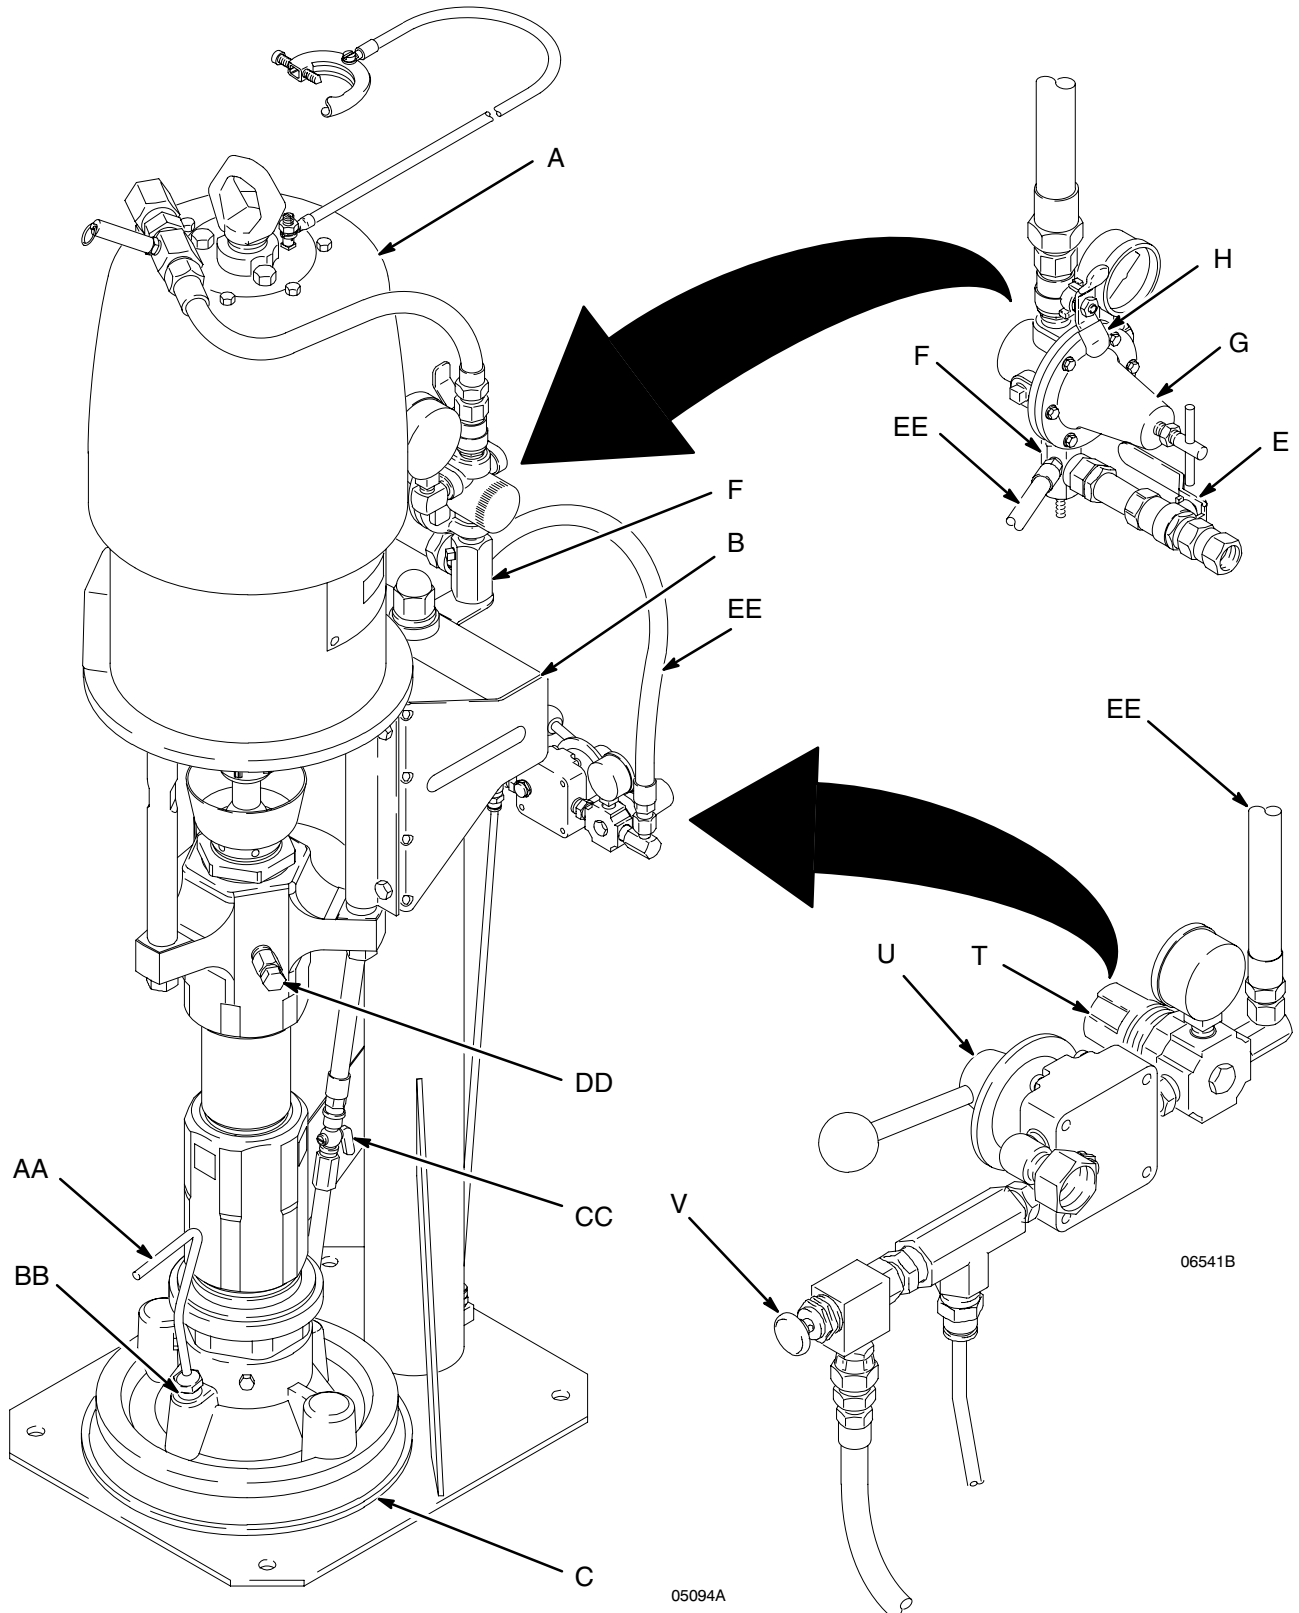

Fig. 1
Refer to Fig. 1.
1. Refer to Fig. 1. Close all air regulators and air valves.
2. Open the main air bleed valve (E) and set the ram air regulator (T) to 2.8 bar, 0.28 MPa (40 psi). Pull up on the director valve (U) handle so the arrow points to UP, and let the ram rise to its full height.
3. Set a full 19 liter (5 gal.) pail of fluid on the ram base, slide it back against the ram tube and supports, and center it under the wiper plate (C). To prevent air from being trapped under the wiper plate, scoop fluid from the center of the pail to the sides, to make the surface concave.
4. With your hands away from the pail and the wiper plate, push down on the director valve (U) handle so the arrow points to DOWN, and lower the ram until the wiper plate rests on the lip of the pail. Move the director valve handle to the horizontal position (neutral).
5. Adjust the pail to be sure it is aligned with the wiper plate, and remove the vent handle (AA) from the wiper plate (C) to open the vent hole (BB).
6. Set the director valve (U) to DOWN and continue to lower the ram until fluid appears at the wiper plate vent hole (BB). Set the director valve to neutral, reinstall the vent handle (AA) and tighten securely. See Fig. 1.
1. Be sure the pump air regulator (G) is closed. Then set the ram air regulator (T) to about 2.1 bar, 0.21 MPa (30 psi). Set the director valve (U) to DOWN. See Fig. 1.
2. Start the pump (A) as explained in the separate pump instruction manual.
3. Keep the director valve (U) set to DOWN while the pump is operating.